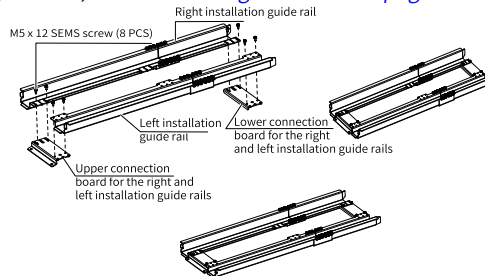

Figure 2-22 Guide rail assembling
a. Assemble the guide rail, as shown in "Figure 2-22 " on page 47 .